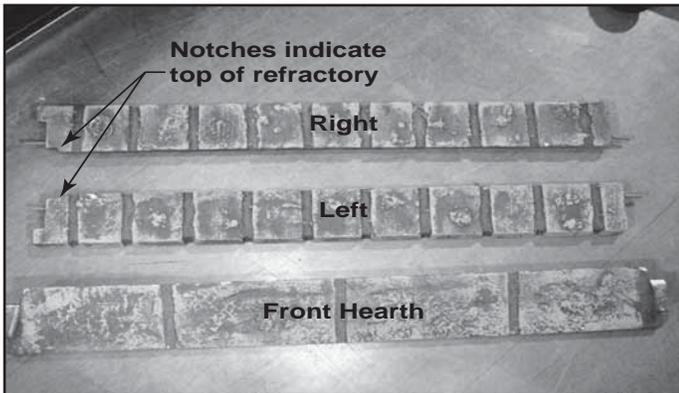

Figure 15.17 Refractory Pieces
### Open Refractory Package (Figure 15.17)
- Locate right side refractory panel. See Figure 15.17.